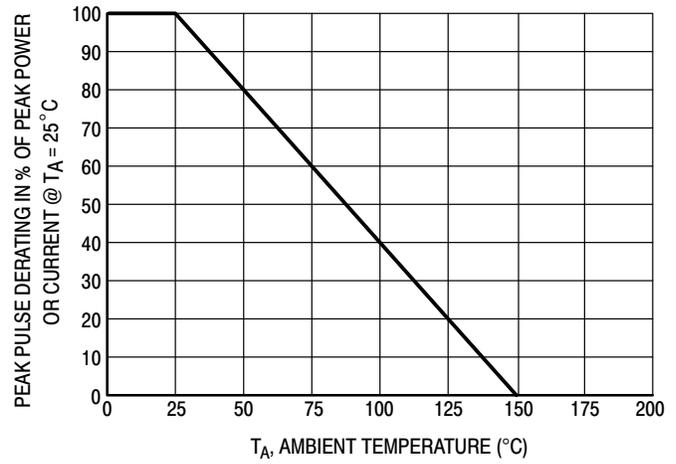
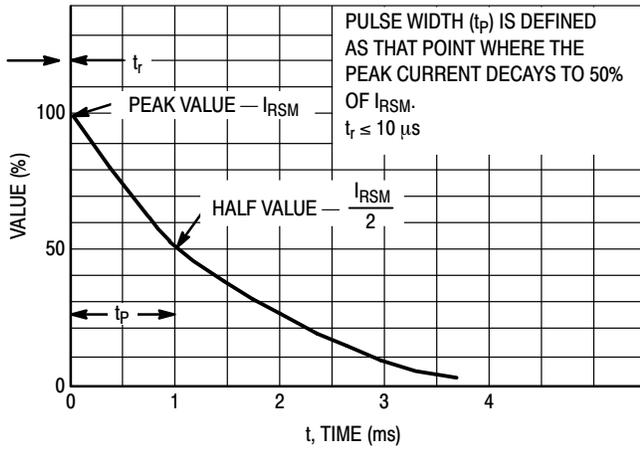
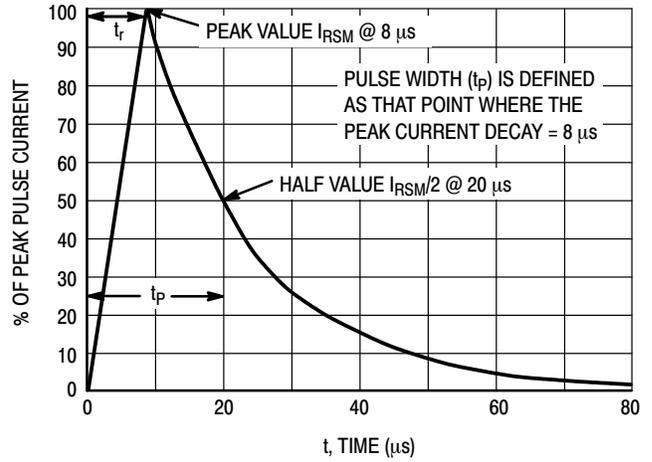

Figure 4. Pulse Derating Curve
Figure 5. $10 \times 1000 \mu s$ Pulse Waveform
Figure 6. $8 \times 20 \mu s$ Pulse Waveform
- Peak Power-Min. 24 W @ 1.0 ms (Unidirectional), per Figure 5 Waveform
- Peak Power-Min. 150 W @ 20 μs (Unidirectional), per Figure 6 Waveform
1. Non-repetitive current pulse per Figure 5 and derate above $T_A = 25^\circ\text{C}$ per Figure 4.
2. Non-repetitive current pulse per Figure 6 and derate above $T_A = 25^\circ\text{C}$ per Figure 4.
8. Surge current waveform per Figure 5 and derate per Figure 4.